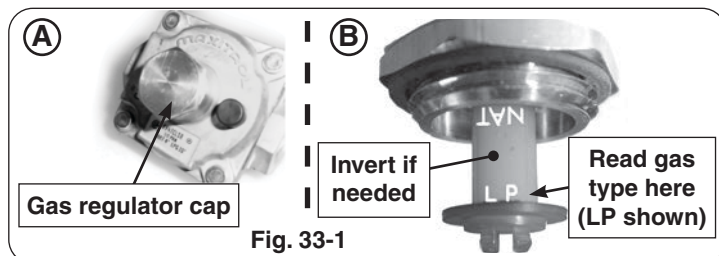
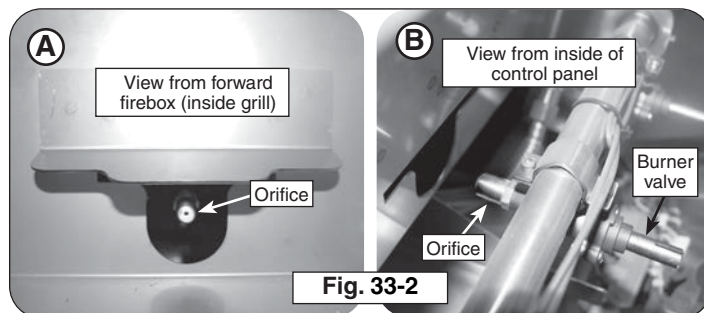

Fig. 33-1
Fig. 33-2
The gas regulator, equipped only on natural gas models and located beneath the grill, must be set for the type of gas used to fuel the grill. To check the regulator setting, remove the cap in the center of the regulator (Fig. 33-1, A). Holding the cap vertical (see Fig. 33-2, B), the letters at the bottom of the plastic stalk indicate the gas type for which the regulator is currently configured.
3. Use a 1/2" hex deep socket nut driver to remove the exposed orifices. Access the orifices through the holes in the forward firebox plate inside the grill (see Fig. 33-2, A). Check orifices. If needed, replace all with the correct orifices for the new gas.
Alternatively, the orifices can be accessed through the inside of the control panel if the proper tool is not available (see Fig. 33-2, B). This allows a 1/2" open-end wrench to be used instead of a 1/2" hex deep socket nut driver. To open the control panel, see the CONTROL PANEL REMOVAL section.